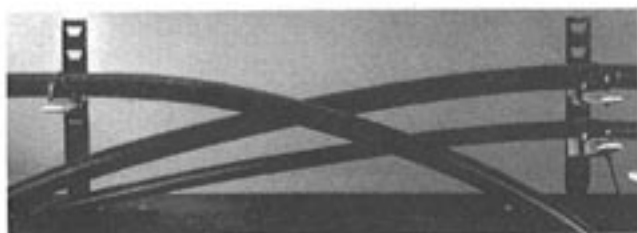

Figure 3 — Racking and Securing Cable
4.02 All cable should be tied within 12" of the End Plate. (Figure 3)